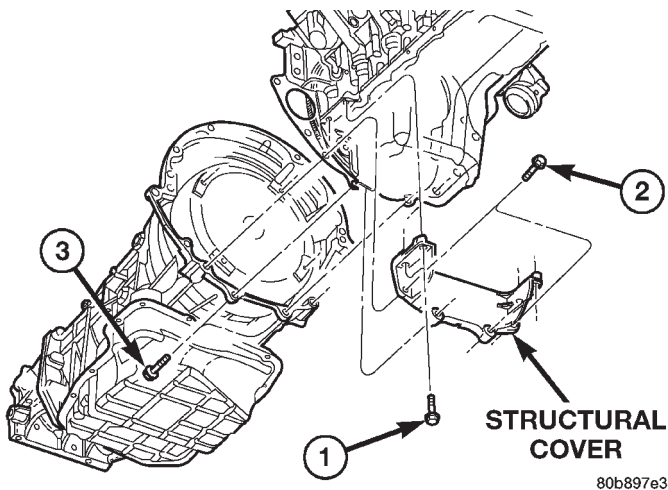

Fig. 28 Structural Cover
(3) Loosen the right hand exhaust manifold-to-exhaust pipe retaining bolts.
(4) Remove the eight bolts retaining structural cover (Fig. 28).
(5) Pivot the exhaust pipe downward and remove the structural cover.
(4) Starting with the two rear cover-to-engine bolts, tighten bolts (1) (Fig. 28) to 54 N·m (40 ft. lbs.), then tighten bolts (2) (Fig. 28) and (3) to 54 N·m (40 ft. lbs.) in the sequence shown.